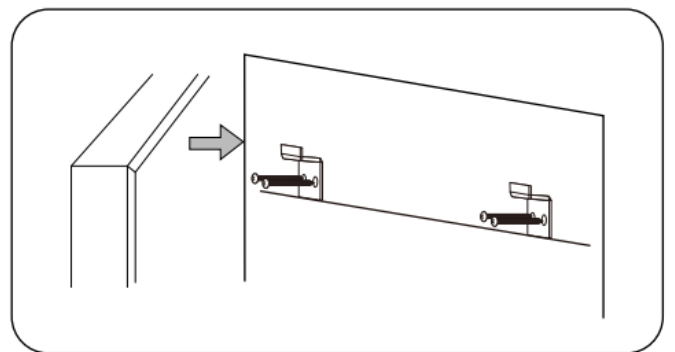

Figure 17
2. Hang the frame and screen horizontally on the hangers and adjust the position of the screen left and right to find the best position (see Figure 17).